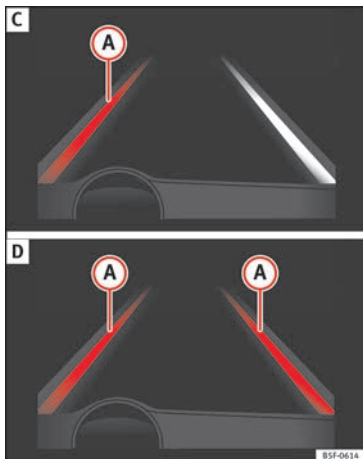

Fig. 218 On the instrument panel display: Indication on the Lane Assist system display (example 2).
- The system is operational, the highlighted line (A) indicates that there was a risk of involuntarily crossing the lane line and that the steering is being adjusted to correct the angle »» Fig. 218 C.
- The two highlighted lines (A) light up simultaneously when both lane lines are recognised and the Lane Assist function is active »» Fig. 218 D.